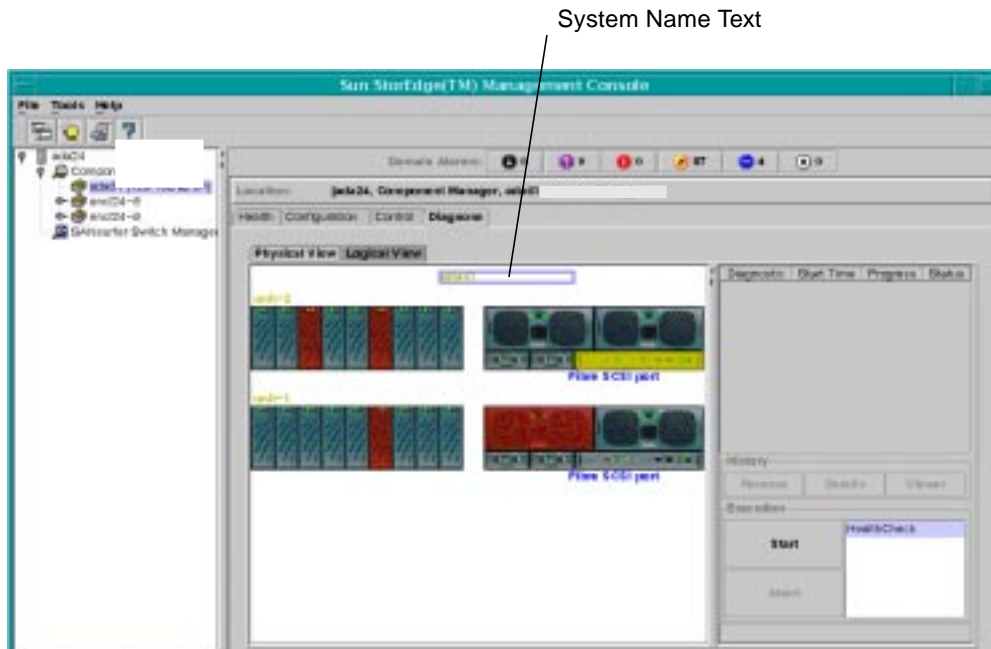

FIGURE 7-1 Diagnose Tab, Sun StorEdge T3 Health Check Window
4. **Select the system name text in the physical view (see FIGURE 7-1).**